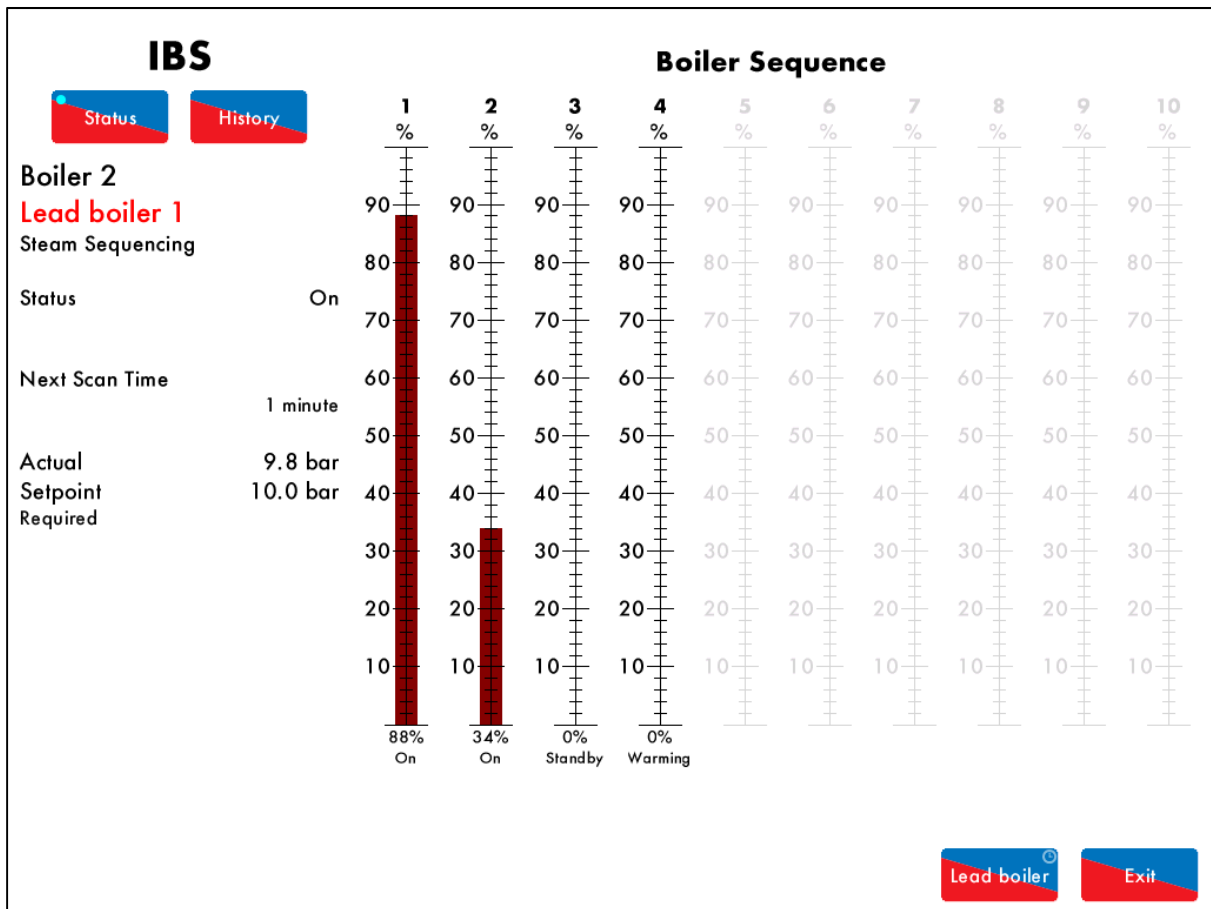

Figure 3.9.1.i IBS – Status
1. Press and hold  for 3 seconds in the IBS Status screen in Figure 3.9.1.i.
Press  in the IBS Status screen in Figure 3.9.1.i to view the IBS History screen, which shows the firing rates histories for all the boilers in the sequencing loop.